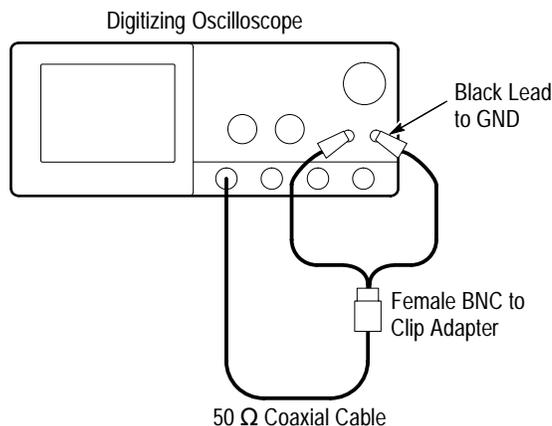

Figure 4–22: Initial Test Hookup
- Connect one of the 50  $\Omega$  cables to **CH 1**. See Figure 4–22.
- Connect the other end of the cable just installed to the female BNC-to-clips adapter. See Figure 4–22.
- Connect the red clip on the adapter just installed to the **PROBE COMPENSATION SIGNAL** on the front panel; connect the black clip to **PROBE COMPENSATION GND**. See Figure 4–22.